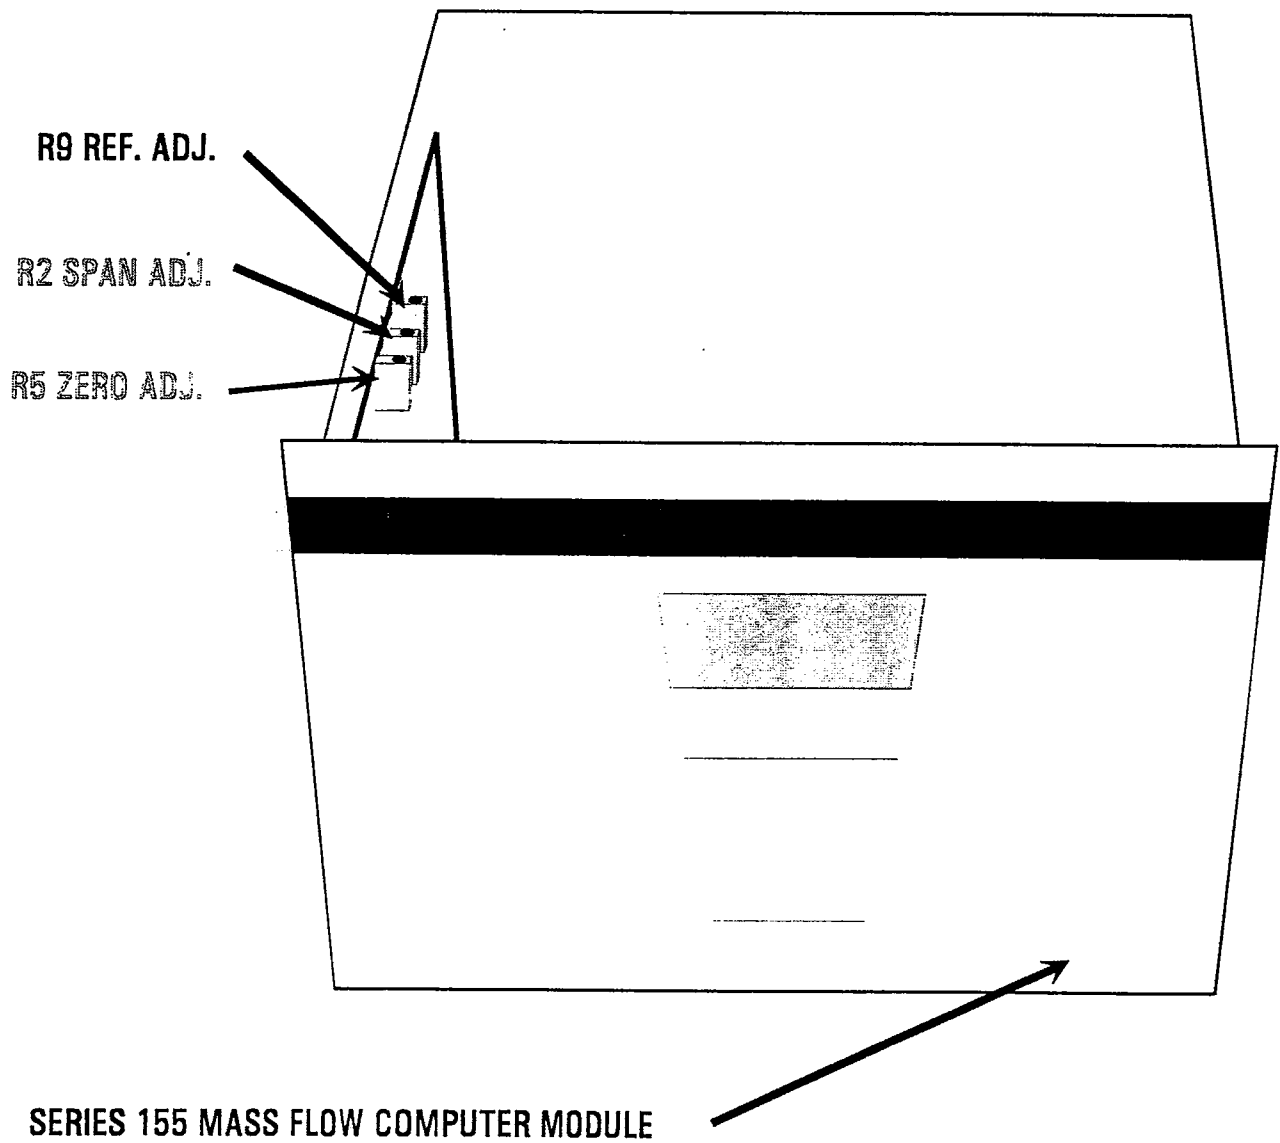

Figure 8, Set Up Zero/Span Drift Check Operate Reference
1. Extend the Model 155 Mass Flow Computer sufficiently to access Reference Adjust R9 located on the 420237 board as indicated in Figure 8.
3. Press the up (YES) or down (NO) arrow until the meter number assigned to the Zero/Span Drift Check as specified in step 2 of "Set Up Zero/Span Drift Check Verification Meter" appears on the front panel LCD.